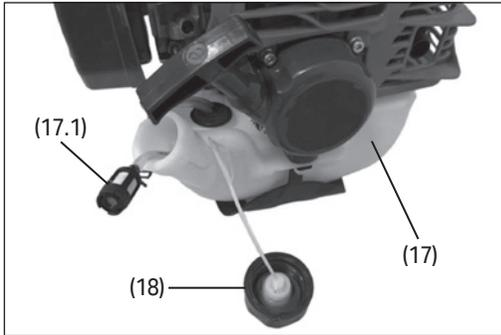

Fig.26
10.6 Cleaning the Fuel Filter (Fig.26)